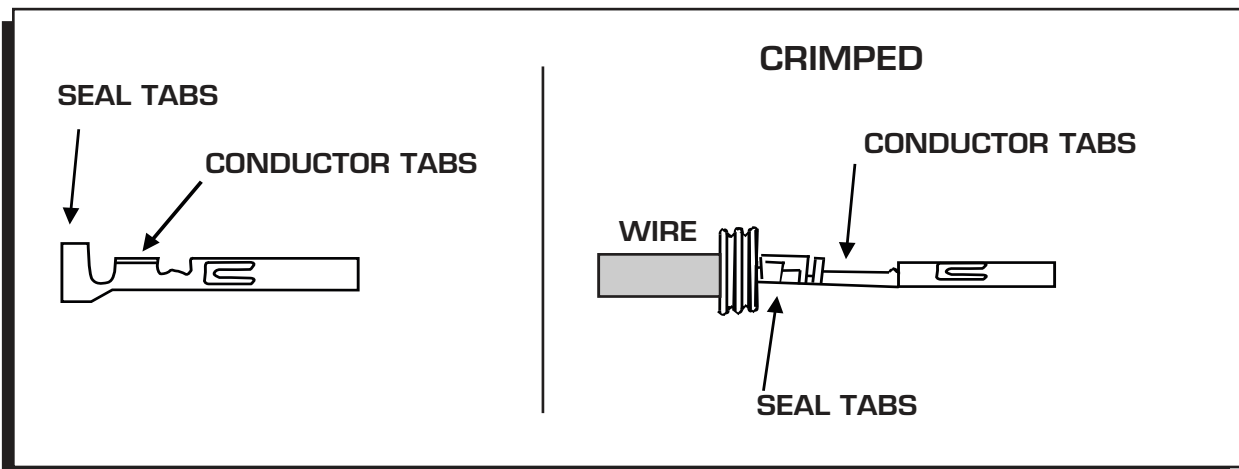

Figure 1 Installing the Terminals.
1. Install the Weathertight seals, terminals and connector (Figure 1). It is recommended to use MSD's Pro-Crimp Tool, PN 35051, with Weathertight Dies, PN 3509.